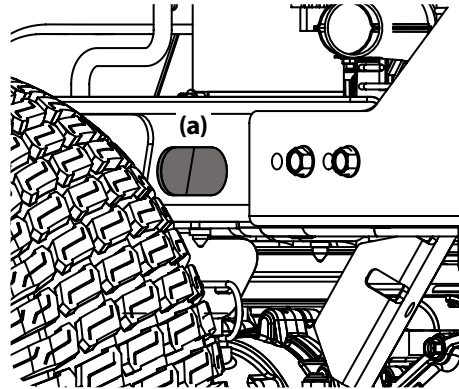

Figure 4-3
- c. Push the clear oil drain tube (packed with this manual) onto the oil drain port. Route the opposite end of the tube into an appropriate oil collection container with at least a 2.5 quart capacity to collect the used oil. Some models are equipped with a slot (a) in the rear left side of the frame to route the oil drain through. See Figure 4-3.